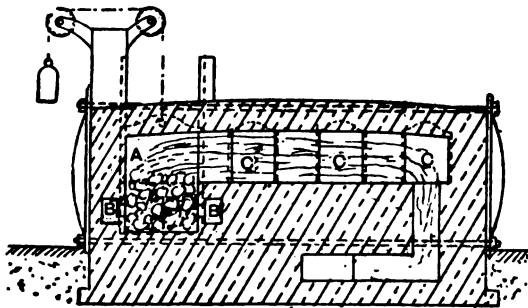
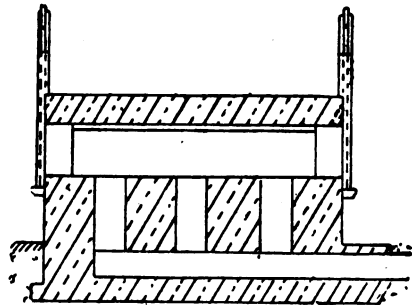

Fig. 1
Fig. 2
clock, but a stronger wheel would wear better. The train consists of three wheels and pinions (see Figs. 1 and 2), and each wheel and pinion has a ratio of about 6 to 1. They are controlled by a weight governor like a steam-engine governor. The last wheel of the train carries the discs and drives the governor. The wheels are mounted on studs on a bedplate, as in Fig. 1. The last one, carrying the discs, has a long "pipe."
**Furnace for Wagon Springs.**—Fig. 1 is a cross section and Fig. 2 a longitudinal section of a suitable furnace to be used when making railway wagon springs. A shows the firehole, B the blast inlets, and C the chambers for the spring plates. The products of combustion